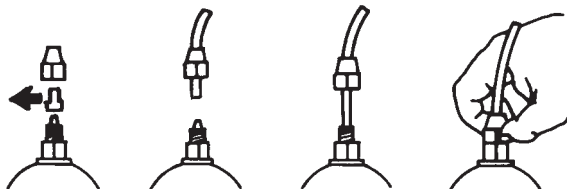

Fig. 7
- e.- Remove the protection caps from the two nipples, slide the hoses over the connectors, pushing them right home, and then fix them with appropriate tube nuts. (Fig. 7).